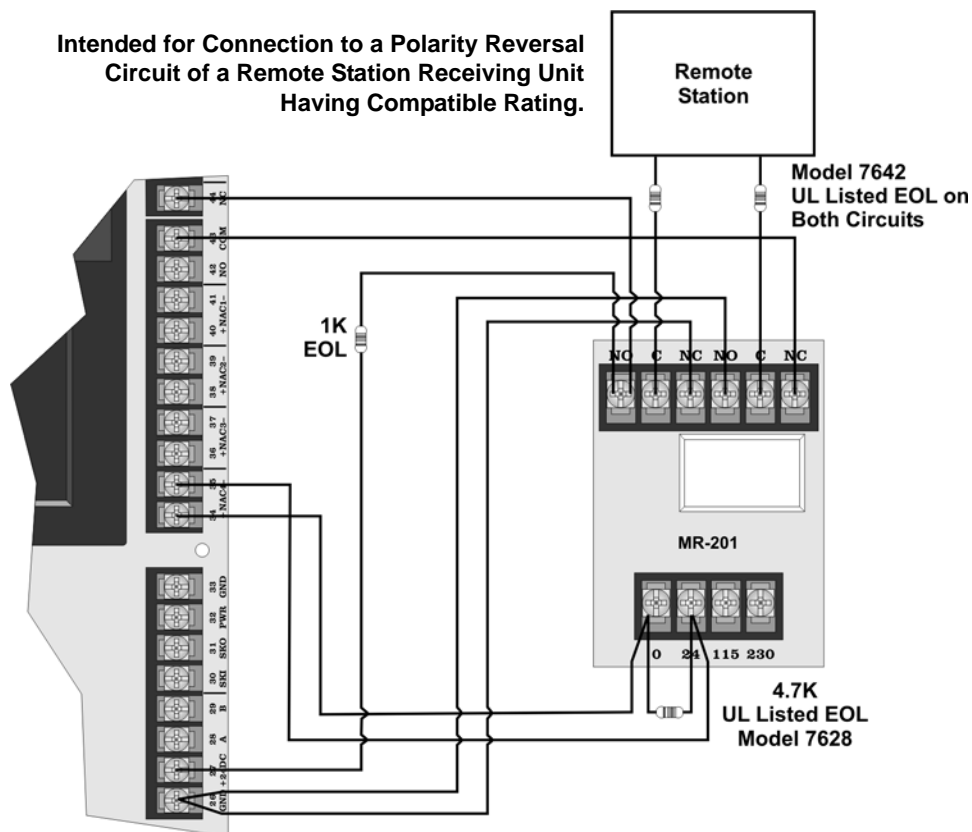

Figure 3-29 Wiring the MR-201/T
1. Wire the MR-201/T as shown in Figure 3-29.